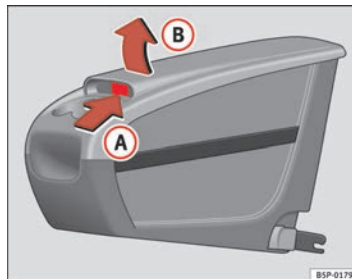

Fig. 114 Mobile stowage compartment Opening
- Lift the cover **(B)**, in area **(A)** ⇒ page 146, fig. 114.